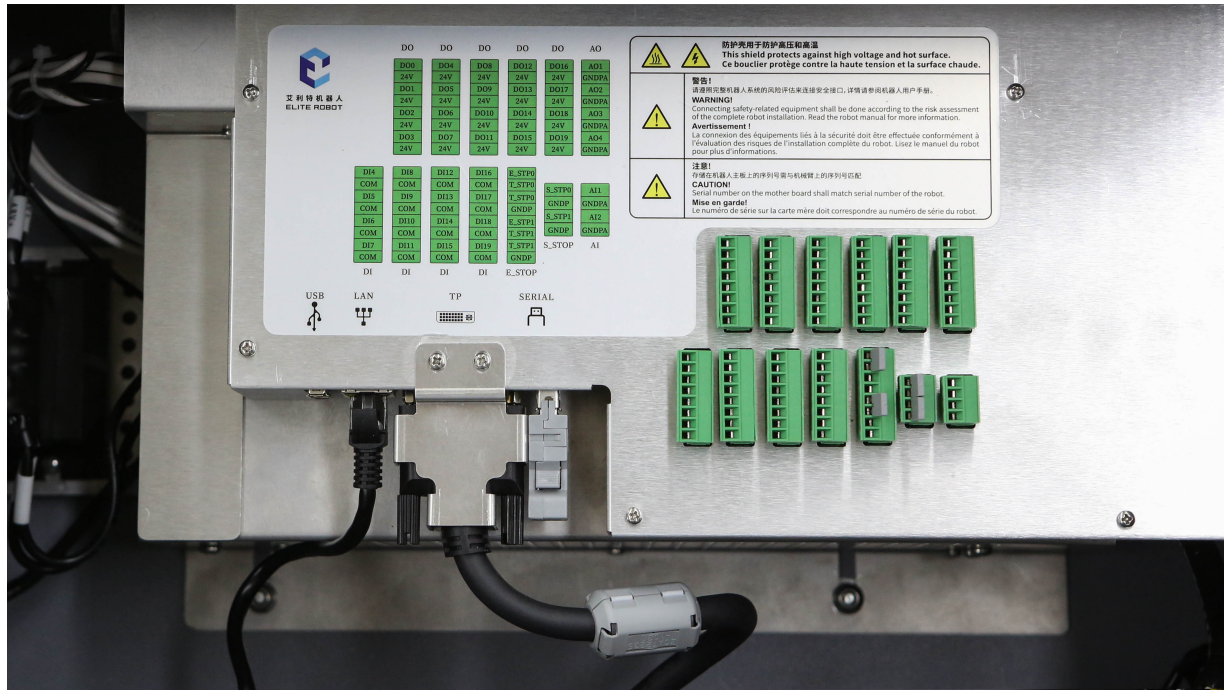

Figure 5-8 : Restore controller
6. Insert the terminals on the IO board as they are, as shown in **Figure 5-8**.